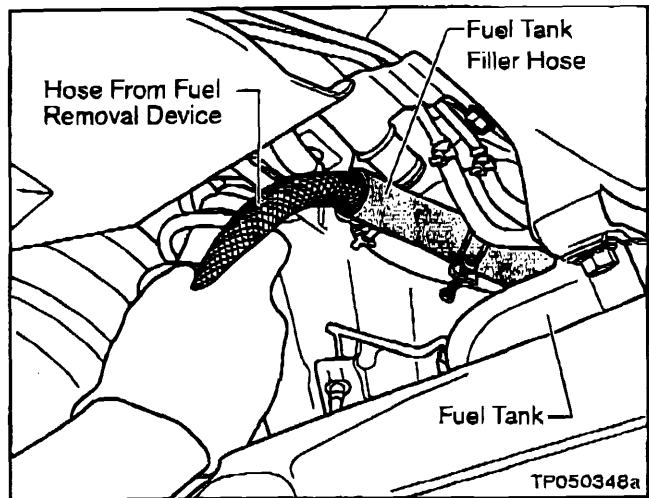

Figure 5
10. If the Fuel Tank level is over 1/8 full, use a suitable fuel removal device to pump fuel out of the Fuel Tank Filler Hose (see Figure 5).